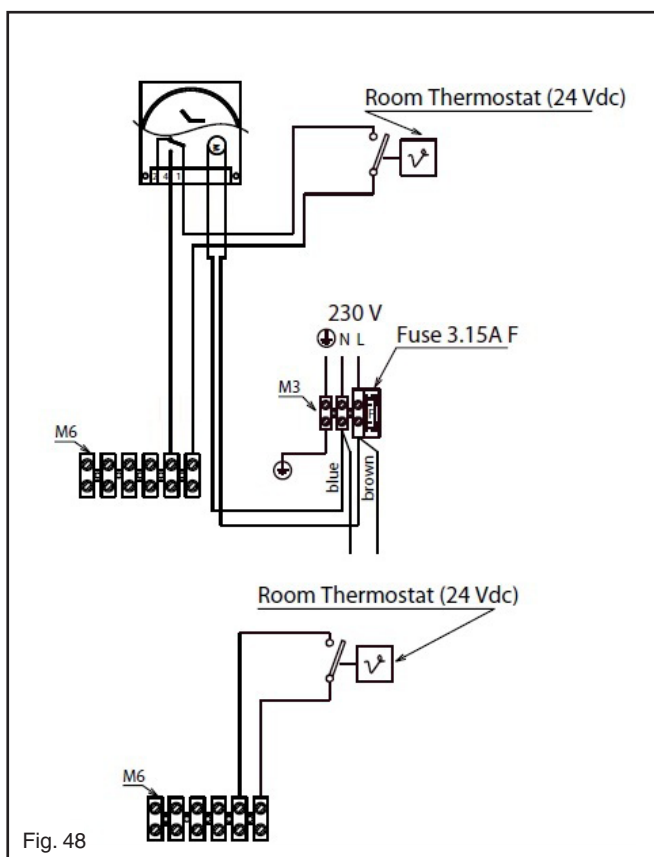

Fig. 48
- single-channel, voltage-free time clocks or programmable room thermostat (fig. 48). If using the factory fitted male/female connector, the pink wires connected to the terminal strip M6 must be moved over to the room thermostat socket position.